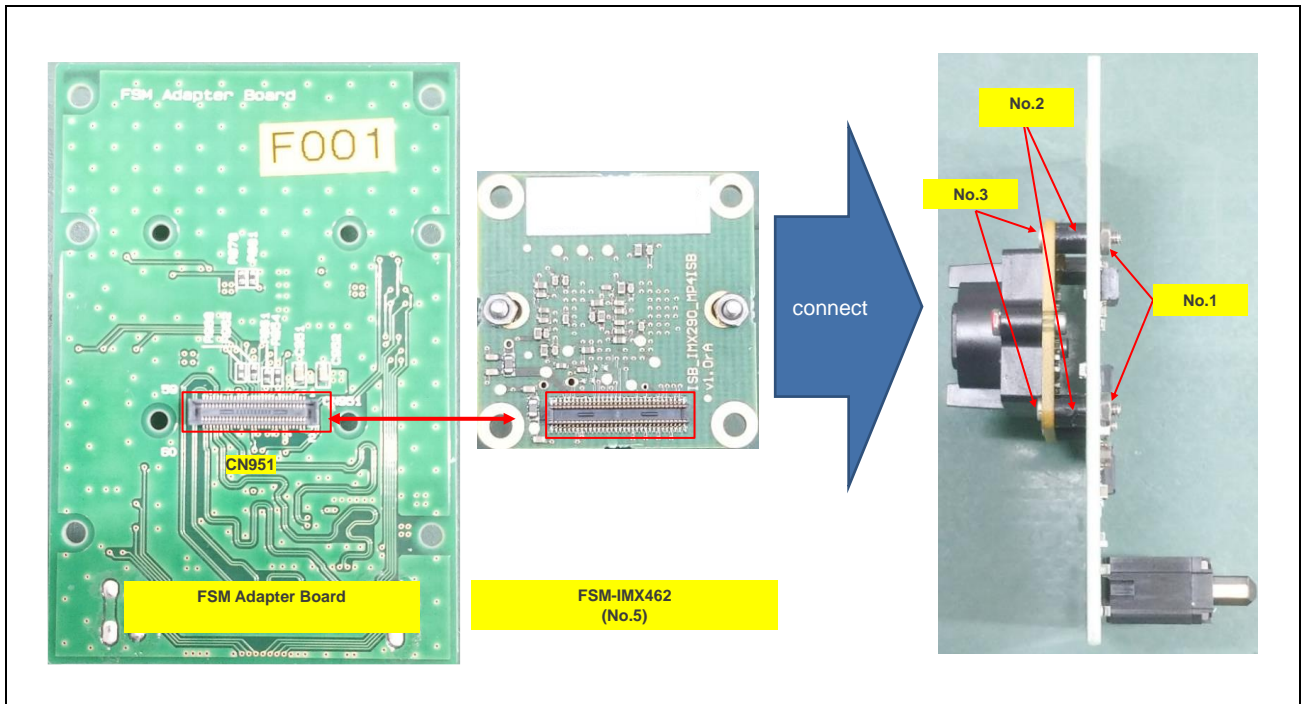
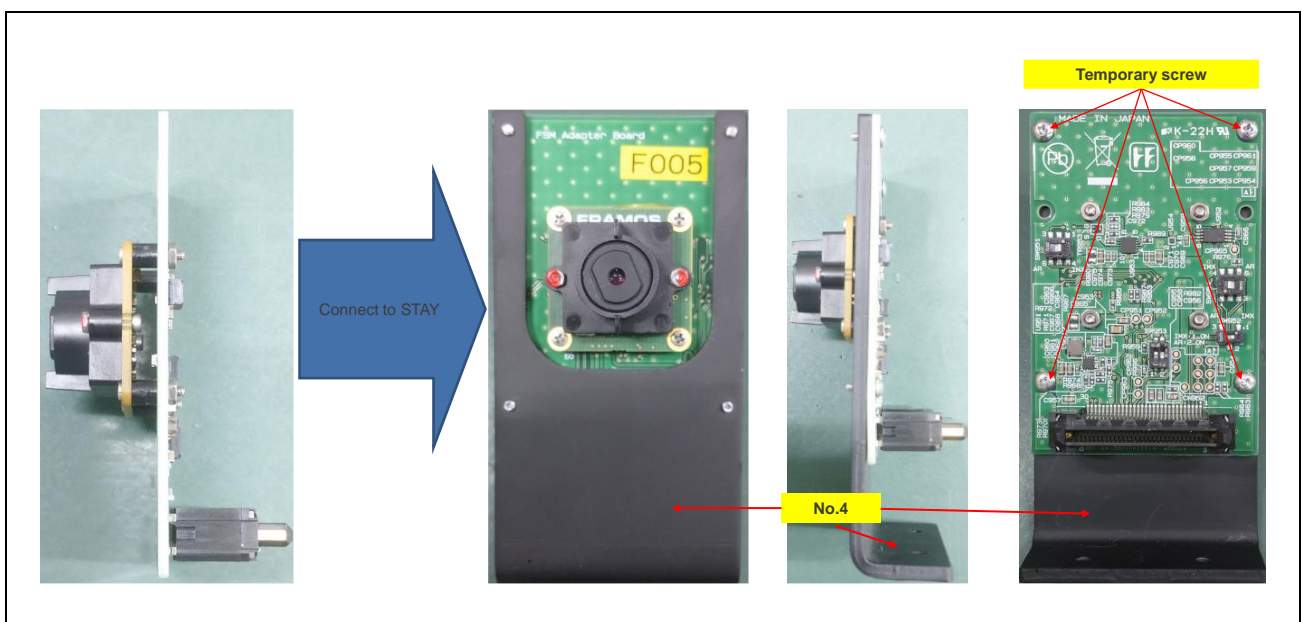

Figure 3.2-2 Connect FSM Adapter Board to FRAMOS Sensor Module (FSM-IMX462)
Figure 3.2-3 Connect FSM Adapter Board to Stay (FSM-IMX462)
- Connect CN951 on FSM Adapter Board to connector on FRAMOS sensor module (See **Figure 3.2-2, Figure 3.2-3**)